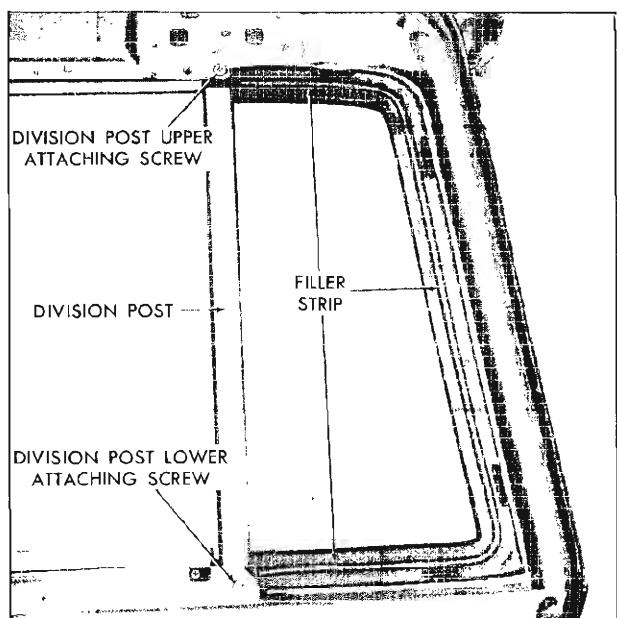

Fig. 14-21 Back Door Stationary Window
2. Disengage rubber channel filler strip from stationary window rubber channel by pulling filler strip inboard (See Fig. 14-21).
4. Remove division post assembly upper and lower (at belt) attaching screws (Fig. 14-21). Using normal hand pressure, move division post towards center of door to provide glass clearance.
5. Position division post against edge of dropping glass and install upper and lower division post attaching screws (Fig. 14-21).